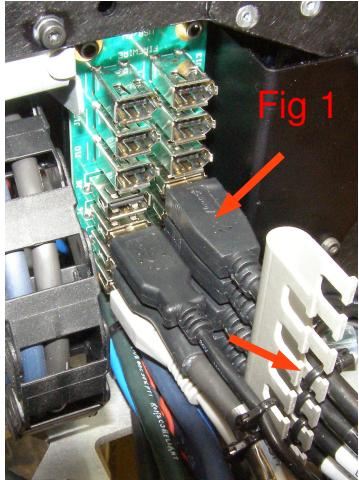

Fig 1
2. Using small diagonal wire cutters, (not supplied) cut the zip-ties and unplug 7 USB cables (Fig 1)